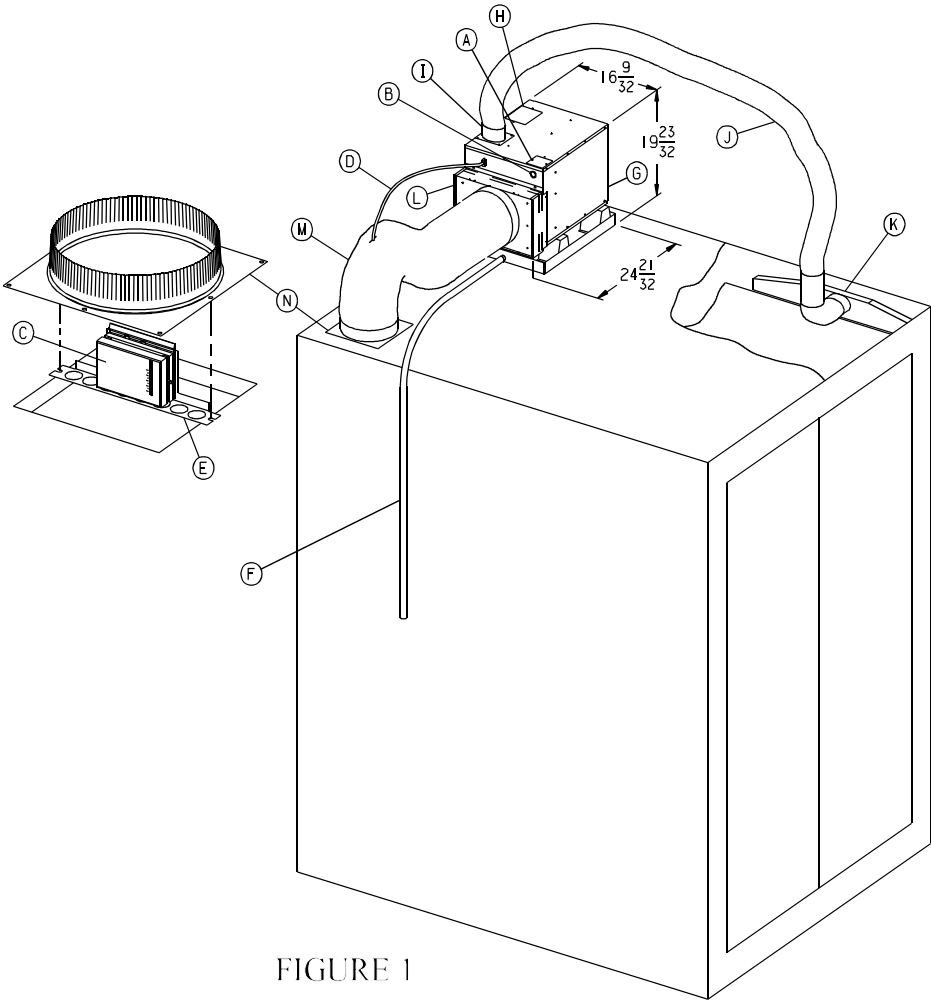

FIGURE 1
The 6571 series package air conditioners are intended for installation on the roof of elevator cabs or like-sized indoor use contrivances. It is understood that the manufacturer has provided an installation area which allows for cutouts and unit mounting without cutting vital frame members or electrical wiring and that structural members do not create restrictions by passing through airways required by the air conditioner. A recommended installation is shown in Figure 1.
- A) High voltage wiring must be routed through a separate opening in the outer cabinet. This opening is referred to as the "power wire entry" (See Figure 1). RV Products provides a 7/8" diameter opening for 1/2" conduit. A knockout for 3/4" conduit is also provided.